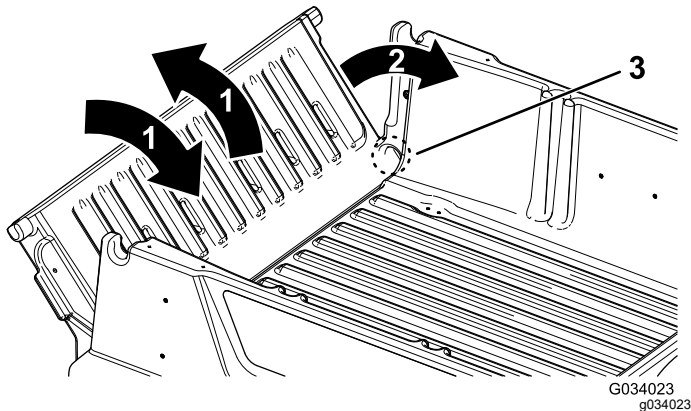

Figure 16
2. Rotate the tailgate to approximately the 45° position (Figure 16).
3. Use a short, shaking motion to rotate the tailgate back and forth several times (Figure 16).